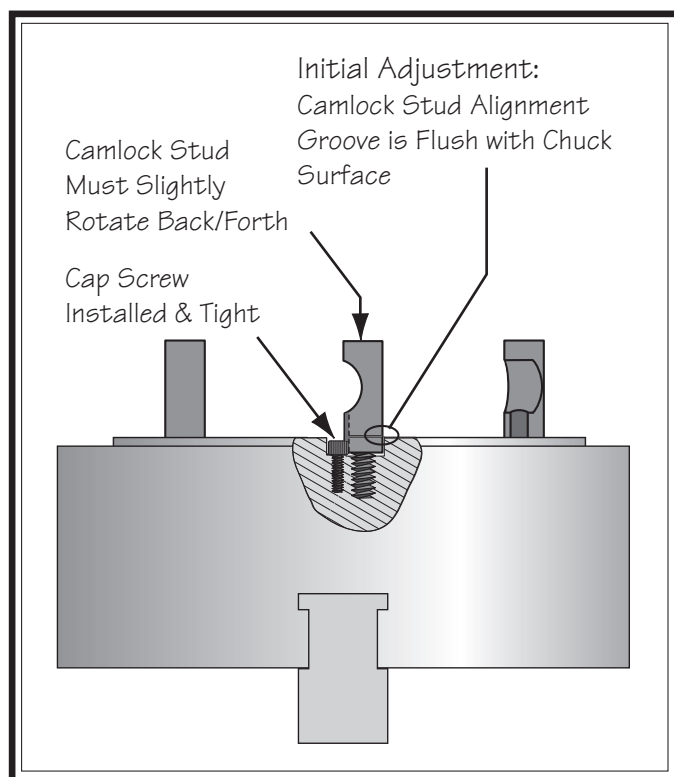

Figure 2. Camlock stud installation.
1. Oil and thread each cam stud into the chuck until the alignment groove is flush with the chuck surface, as shown in **Figure 2**.